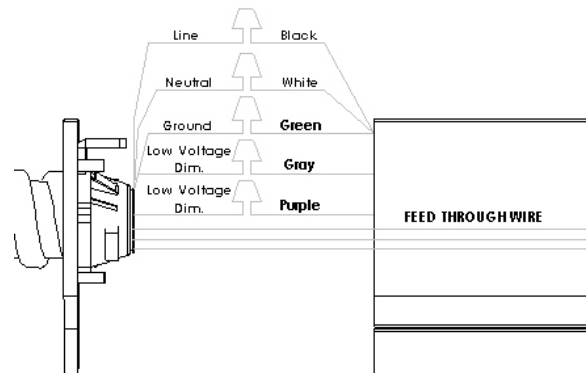

Fig. 3
4. Splice Nova 2 fixture wiring to line wires, Use only UL listed wiring devices. Ref (Fig. 3) for wiring diagram. Purple and Gray leads are used for low voltage 0-10 dimming fixtures ONLY. Cap wires if present and not being used.